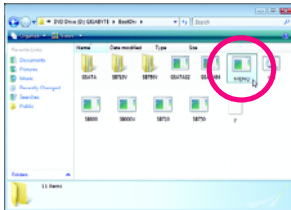
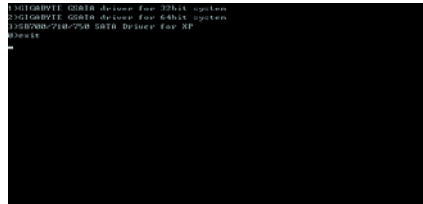

Figure 2
Figure 3
- 2: From your optical folder, double click the **Menu.exe** file in the **BootDrv** folder (Figure 2). A Command Prompt window will open similar to that in Figure 3.
- 3: Insert the blank formatted disk. Select the controller driver by pressing the corresponding letter from the menu. For example, from the menu in Figure 3, select 3) **SB700/710/750 SATA Driver for XP** for operating system.